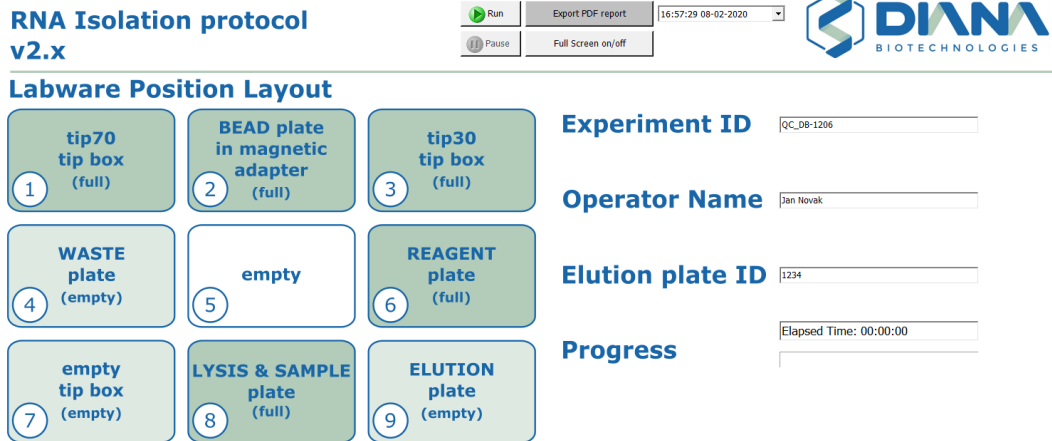

Figure 1: Screenshot of VVForms window of RNA Isolation protocol.
4. The VVForms window (screenshot shown in Figure 1) will appear automatically.
1. Follow the “Labware Position Layout” shown in the screen (see Figure 1). The orientation of Bravo station is such that positions 7,8 and 9 are the user-facing front positions.